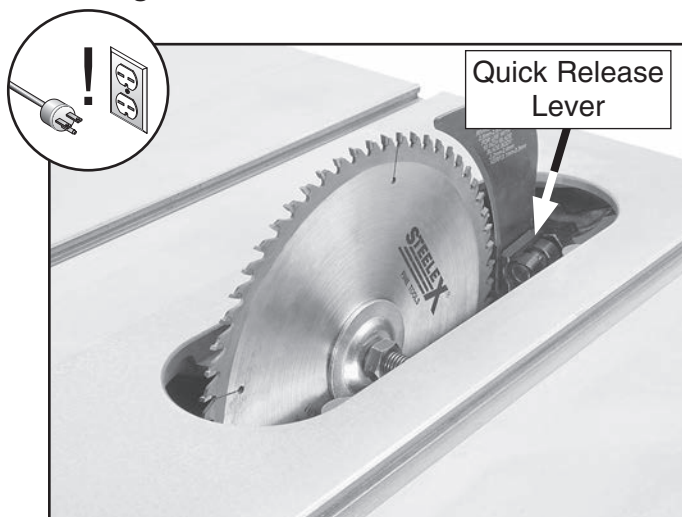

Figure 114. Quick release lever.
3. Loosen the quick release lever shown in **Figure 114**.